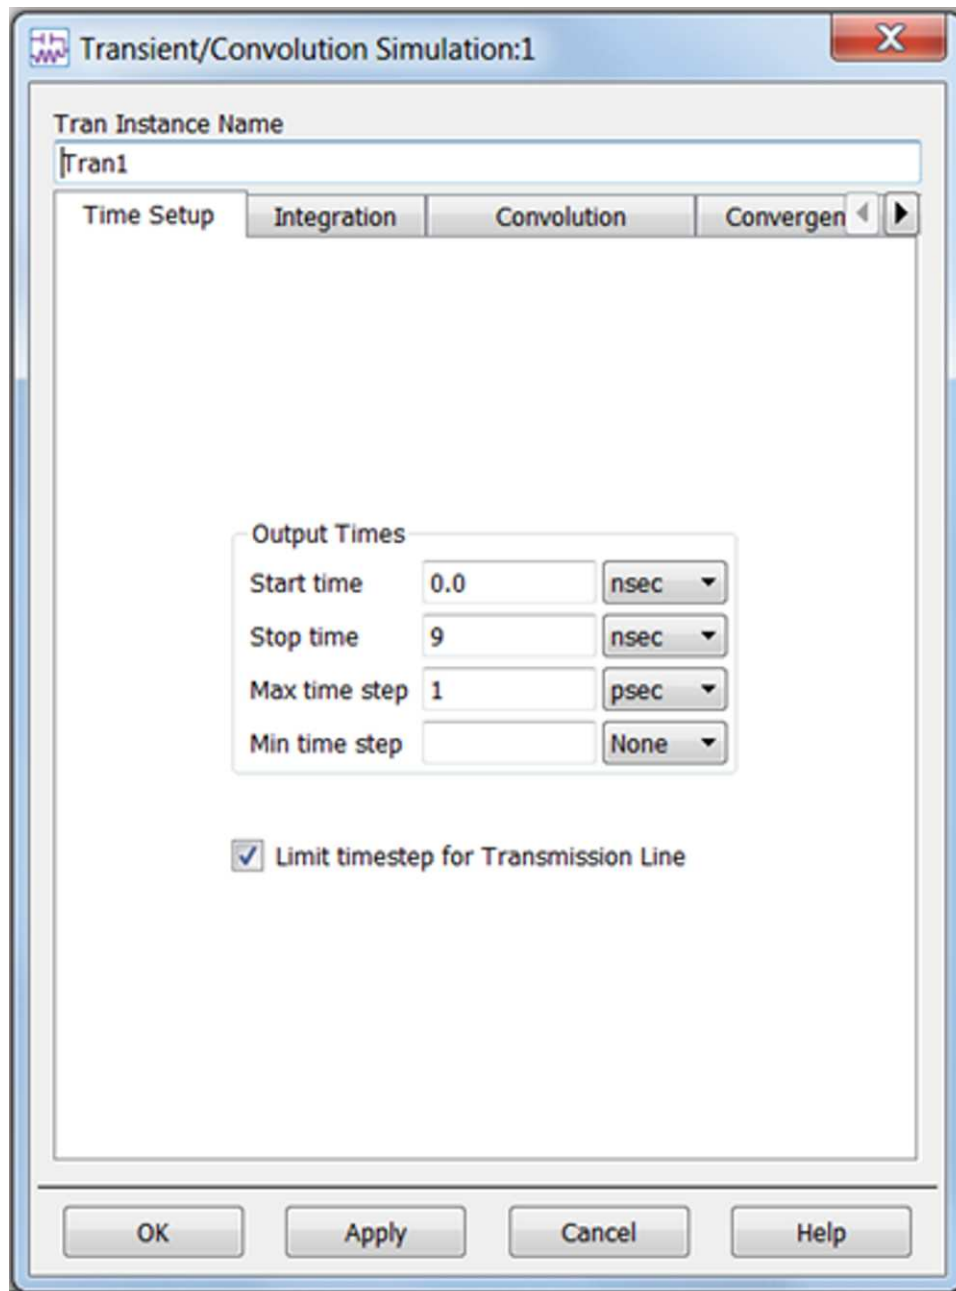

Figure 4. Transient Simulation Parameters
20. Select Simulation-Transient from the palette drop-down menu and configure it as shown in Figure 4.